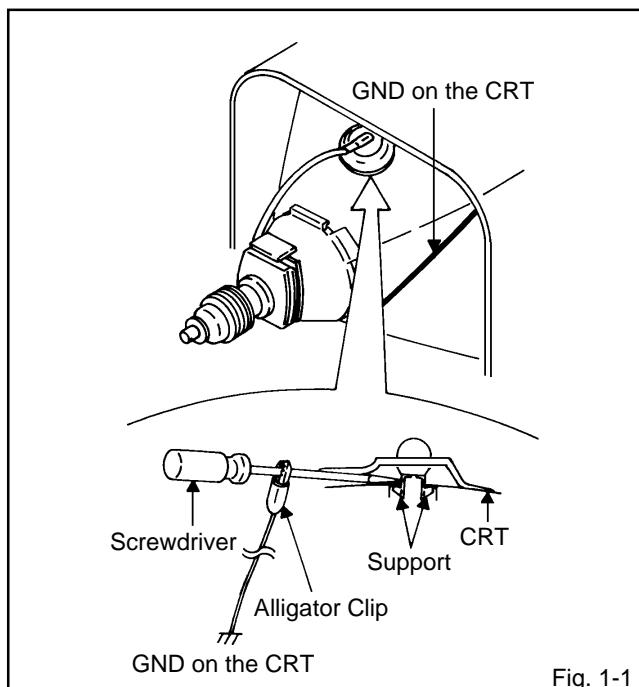

Fig. 1-1
1. Follow the steps as follows to discharge the Anode Cap. (**Refer to Fig. 1-1.**)